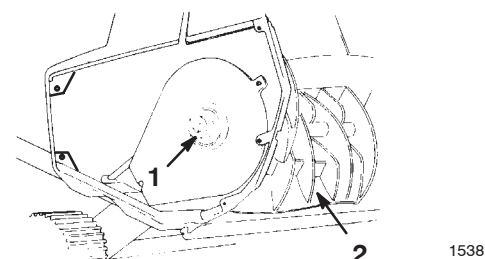

Figure 14
2. Using a 5/16-inch Allen wrench, turn the rotor shaft clockwise (left-hand thread) while holding the rotor (Fig. 14).